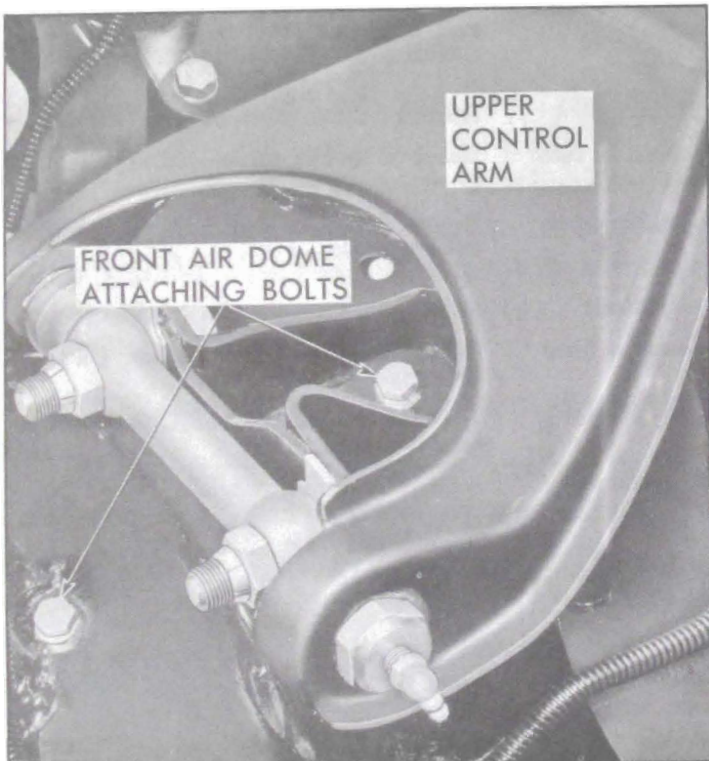

Figure 7-39—Front Air Dome Attaching Bolts
- (d) Remove the air spring dome outer attaching bolt which is on top of the cross member and below the cutout in the upper control arm. Remove the other bolt which is approximately six inches toward center of cross member from first. See Figure 7-39.
(e) With one man below to position and hold spring up, and another on top, replace dome bolts and lock washers and tighten. See Figure 7-39.